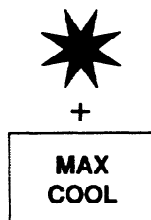

Figure 18
- b. To cancel MAX COOL mode before 10-hour automatic re-set, press START (*) pad; press MAX COOL pad again. See Figure 18.